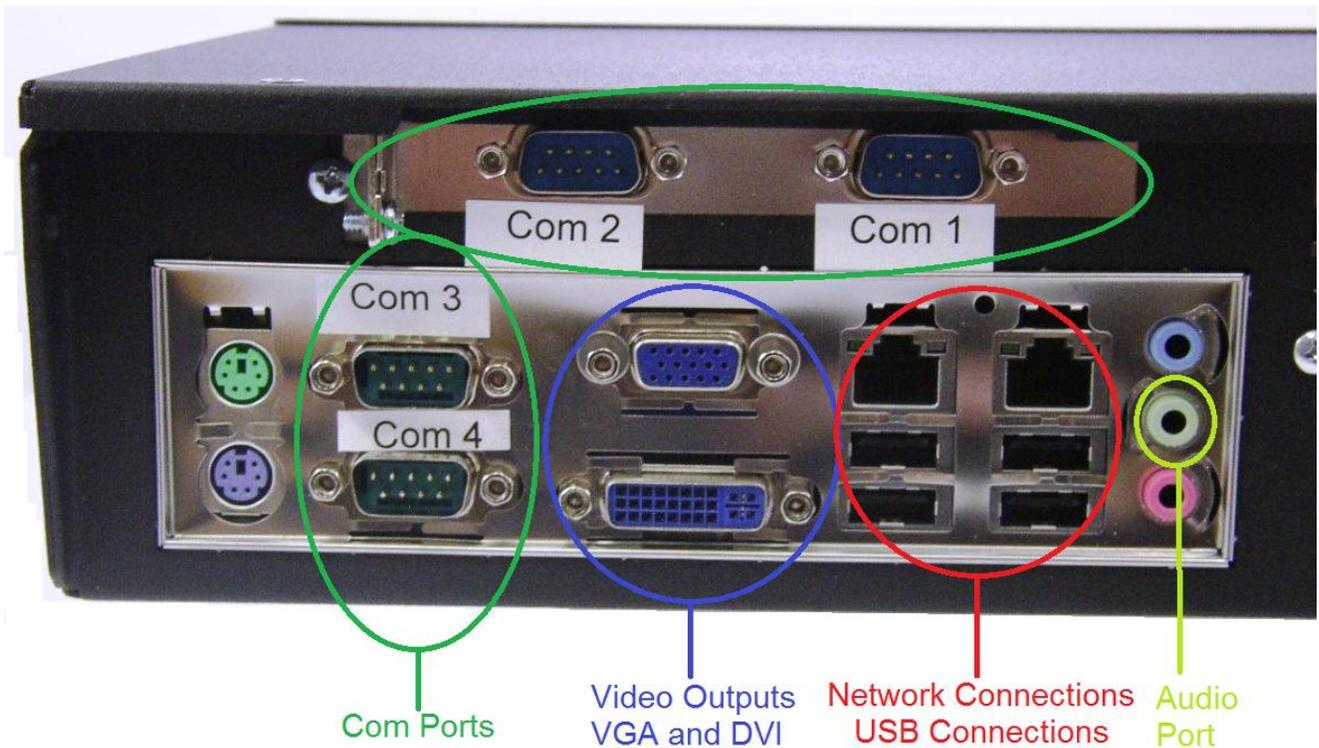

Figure 1
- Connect the video cable from the monitor into the computer's video output port, Figure 1, and plug the monitor's power cord into the *Surge Protection* side of the provided UPS.